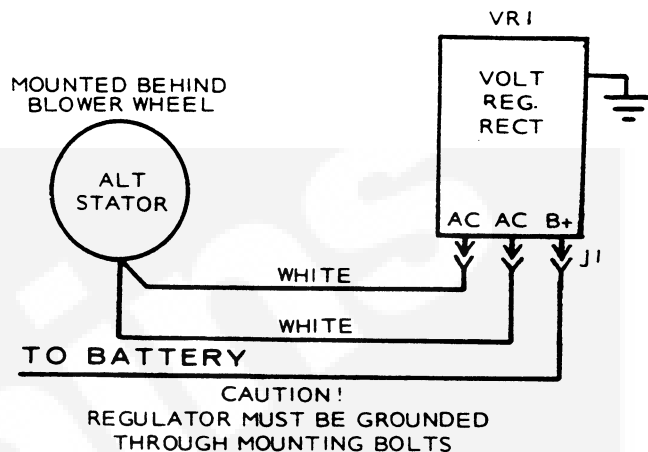

FIGURE 37. 15-AMPERE PHELOM SYSTEM DIAGRAM
1. Check the B+ to ground voltage using a DC voltmeter. See Figure 37 for wiring diagram.